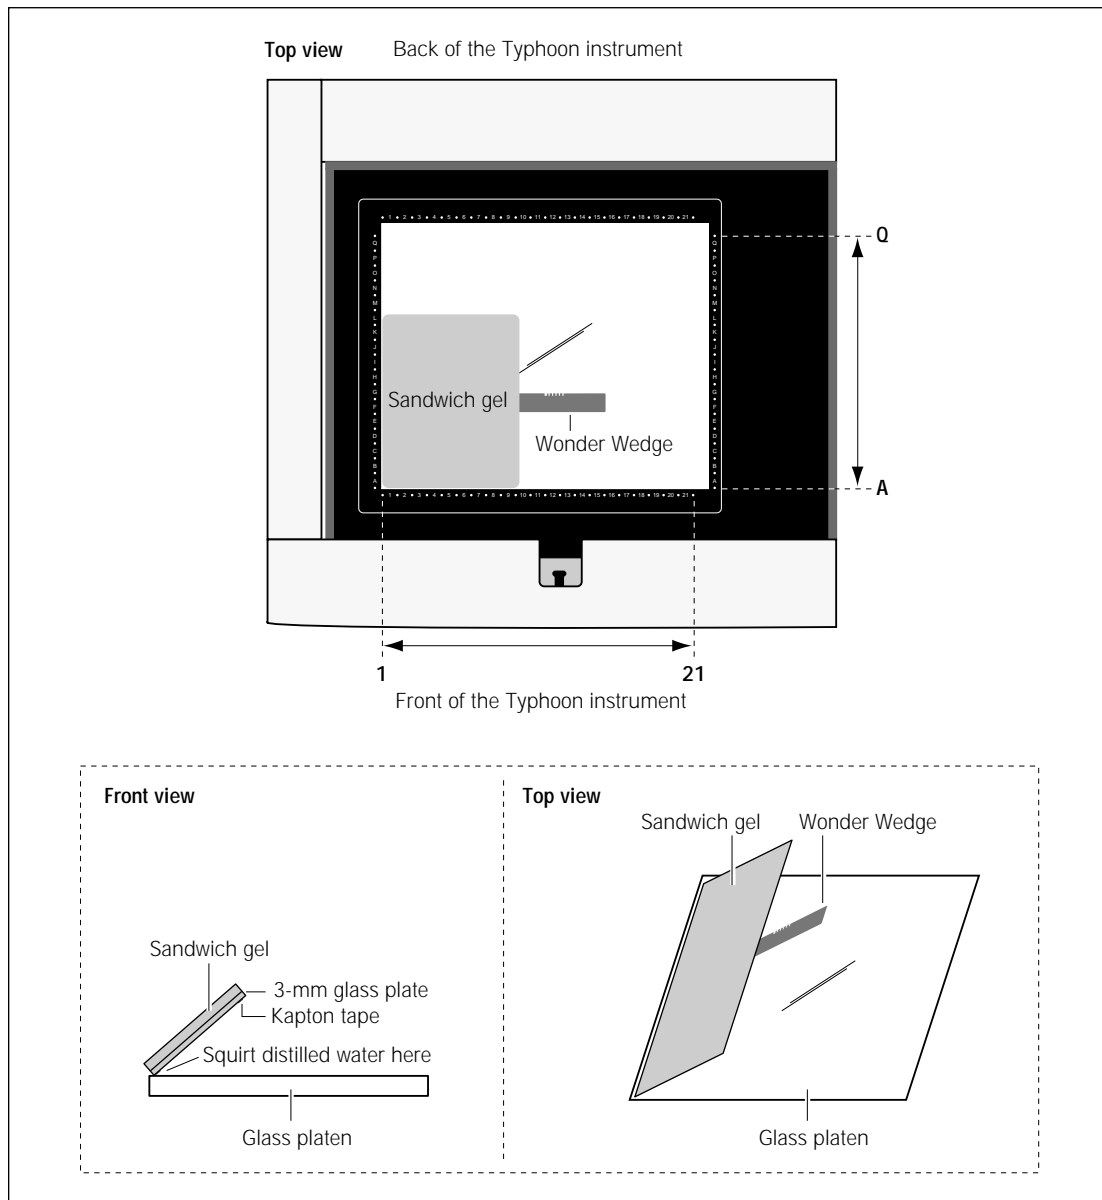

Figure 8-3. Aligning a sandwich gel on the glass platen of the Typhoon instrument.
3. Place one edge of the sandwich gel on the glass platen of the instrument (figure 8-3).